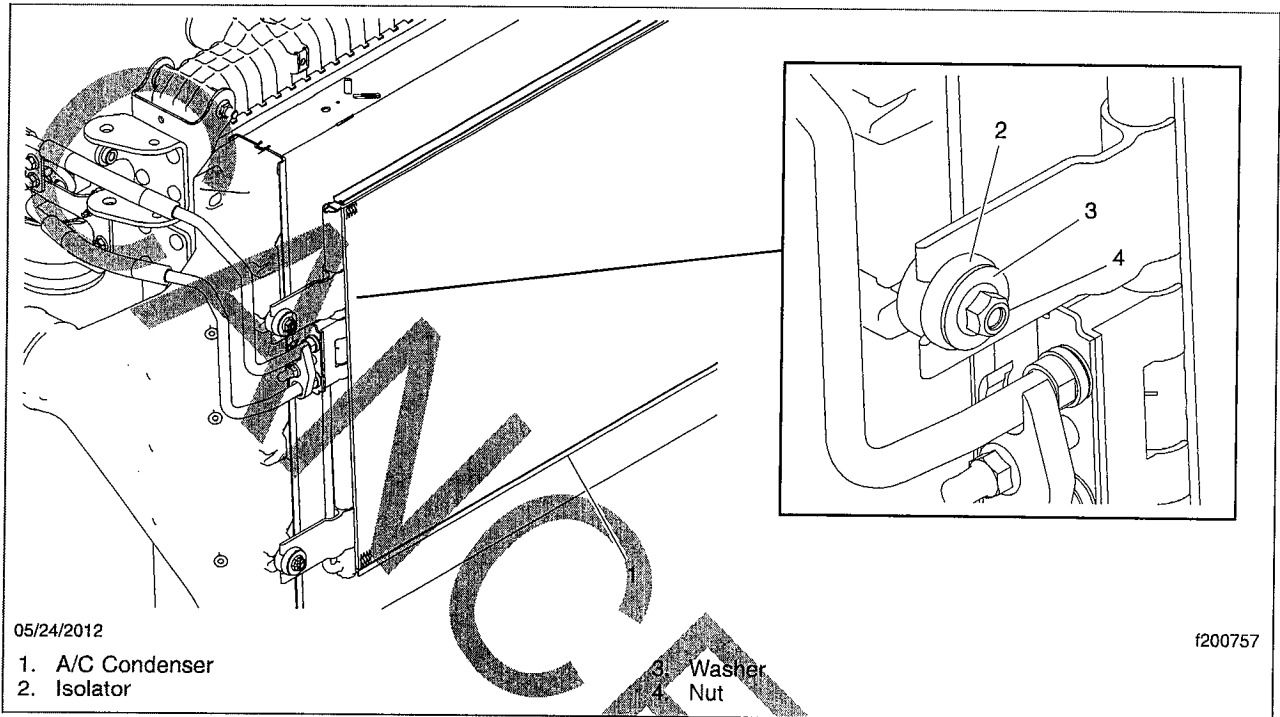

Fig. 3, A/C Condenser Installation
- 12.2 Unbolt the A/C condenser from the CAC. See **Fig. 3**.
- 35.1 Move the condenser into position and secure it temporarily. See Fig. 3.